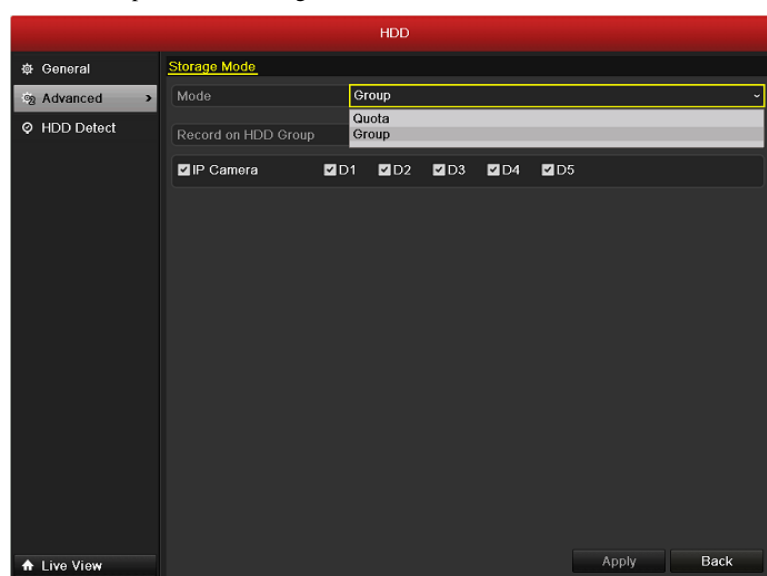

Figure 10.12 Storage Mode Interface
2. Set the **Mode** to Group, as shown in Figure 10.12.